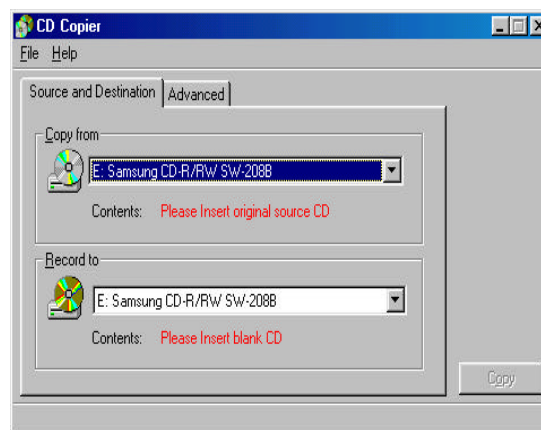

Figure 8. CD Copier
- ◆ Select the drive con tain ing the orig i n a l CD in the Copy from drop-down list box. (Fig. 8)